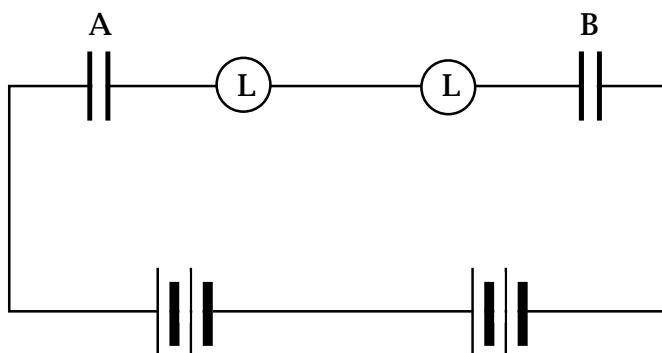

Figure 9.6b
5. Draw starbursts on Figures 9.6b, 9.6c and 9.6d to describe the bulb lighting you observe. Color code these Figures to explain the causes of the bulb lighting.